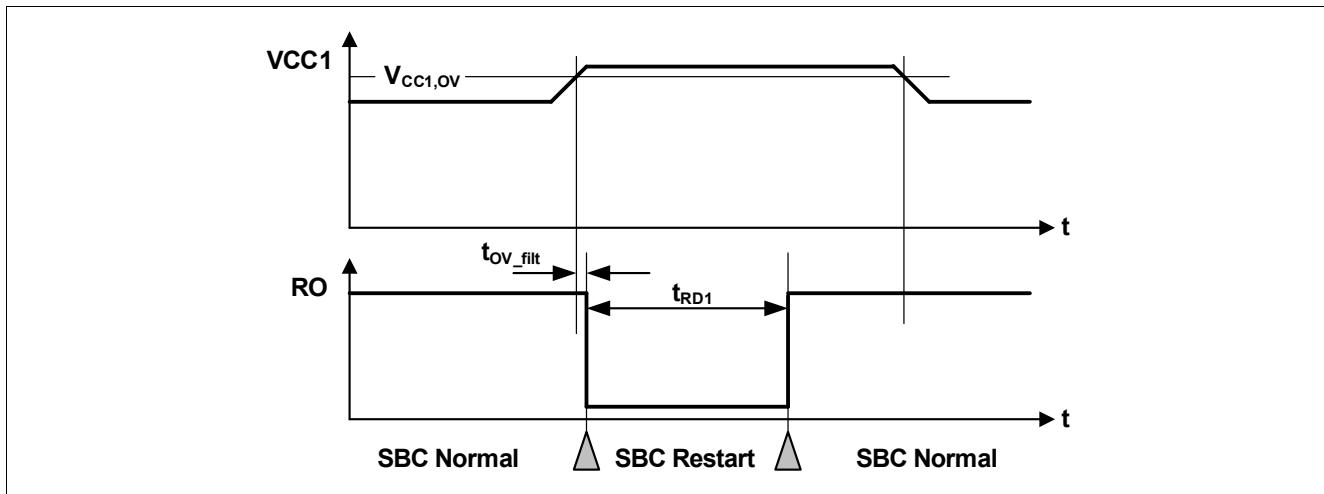

Figure 48 VCC1 Over Voltage Timing Diagram
- If the bit **VCC1\_OV\_RST** is set and **CFG\_P** = '1', then SBC Restart Mode is entered. The FOx outputs are activated. After the reset delay time ( $t_{RD1}$ ), the SBC Restart Mode is left and SBC Normal Mode is resumed even if the VCC1 over voltage event is still present (see also Figure 48). The **VCC1\_OV\_RST** bit is cleared automatically;